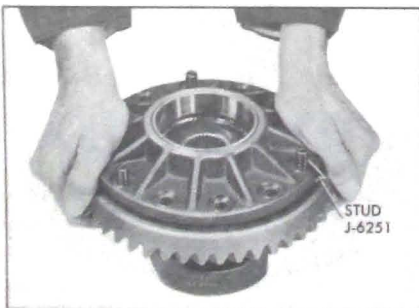

Figure 6-31—Installing Ring Gear on Differential Case
4. After making sure that mating surfaces of case and ring gear are clean and free of burrs, bolt ring gear to case using three Studs J-6251 to align parts. See Figure 6-31. If same ring gear and case are used, line up marks so they are assembled in same relative positions.